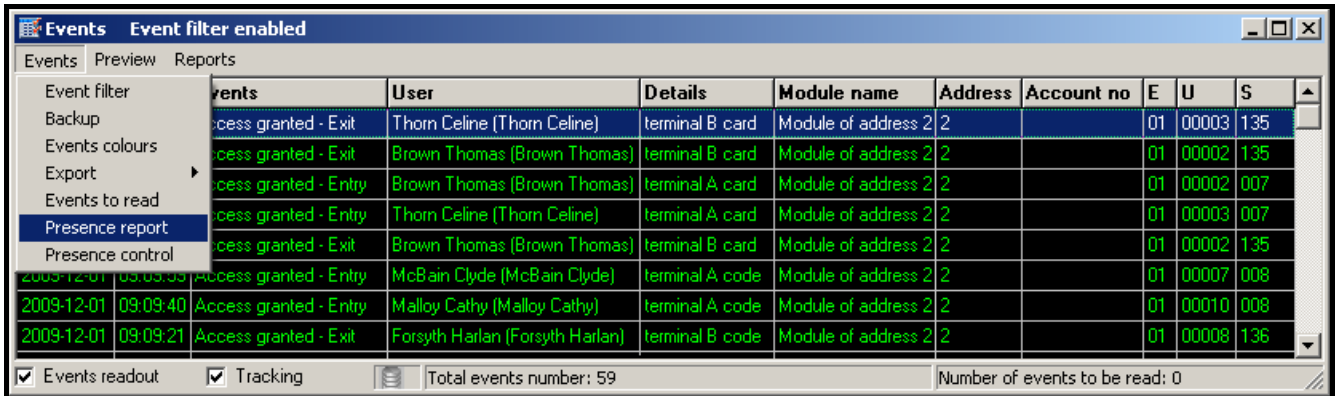

Fig. 34. PRESENCE REPORT command in the EVENTS window.
- open the EVENTS window, then select the EVENTS command to open the menu and select PRESENCE REPORT in it (see Fig. 34);
- open the EVENTS window, then select the EVENTS command to open the menu and select PRESENCE CONTROL in it (see Fig. 34);